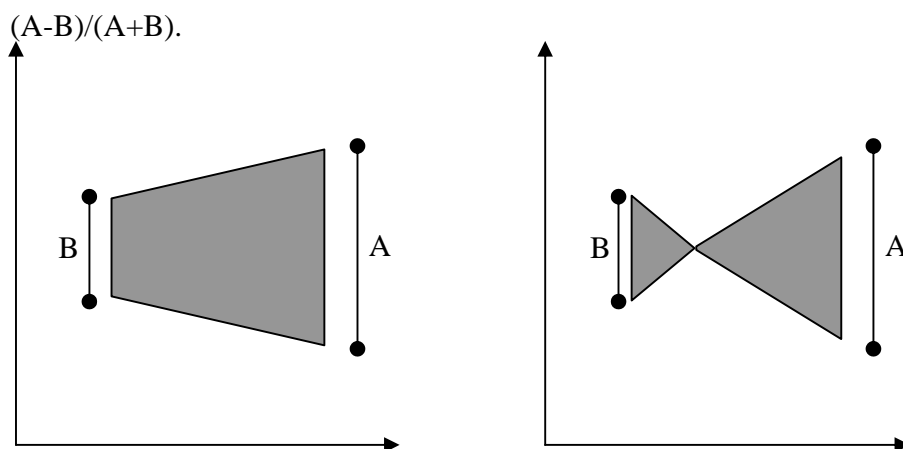

Figure 1: Different Modulation Indices of AM
- Try a variety of different DC offset values on the message signal. For each, calculate the modulation index  $\mu$  using the formula in the text. To measure  $\mu$ , place the oscilloscope in XY mode, so the screen looks something like Figure 1.